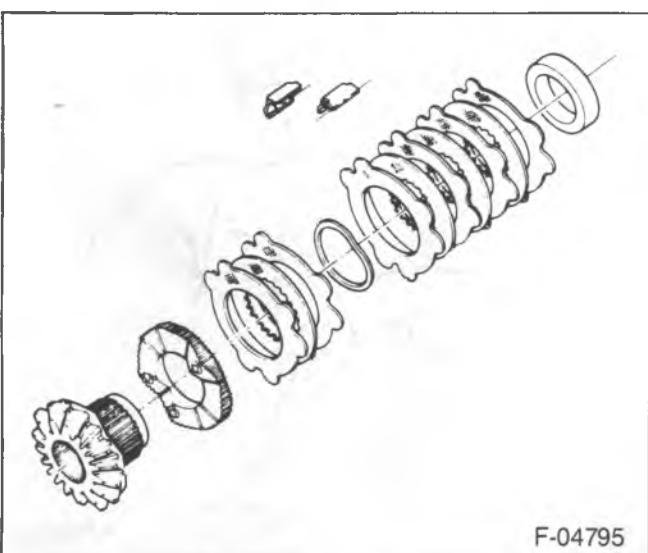

Figure 12—Cam Unit Components
1. Cam plate (33) to the cam side gear (40).
- Alternate the plates, and position the wave spring as shown in figure 12.
4. Thrust sleeve (35).
5. Guide clips (34) to the plates.
- If the side gear or thrust sleeve has been replaced, measure and record the overall length of the gear to the back of the thrust sleeve (35) including the side gear thrust washer (36).
- Alternate the plates as shown in figure 12.
2. Assemble the guide clips (47) to the plates.
3. Install the thrust washer (45), clutch plate assembly (44), and left side gear to the differential.